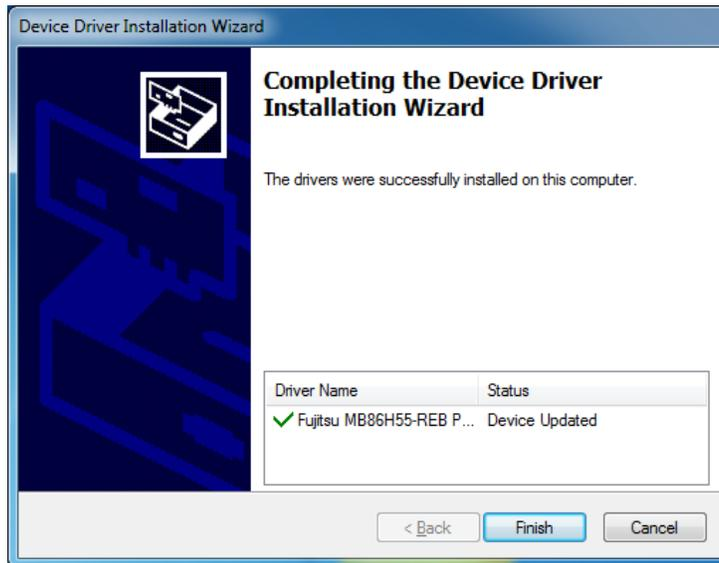

Figure 1-5: Driver Installation Complete
Step 8: When the driver installation is complete, the screen in **Figure 1-5** appears. Click the **Finish** button to finish driver installation.